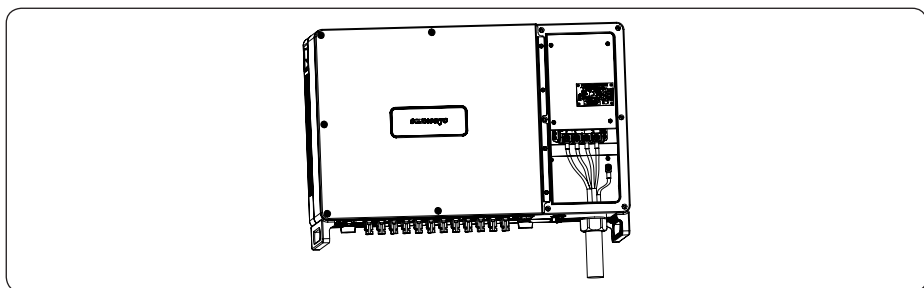

Figure 4-15
3) Put the AC cable through the cable gland and use a screwdriver to lock all five cables (L1/L1/L3/N/PE) to the correspondingly AC connector and pull back them with some power to make sure they're well connected. As shown in Figure 4-15: